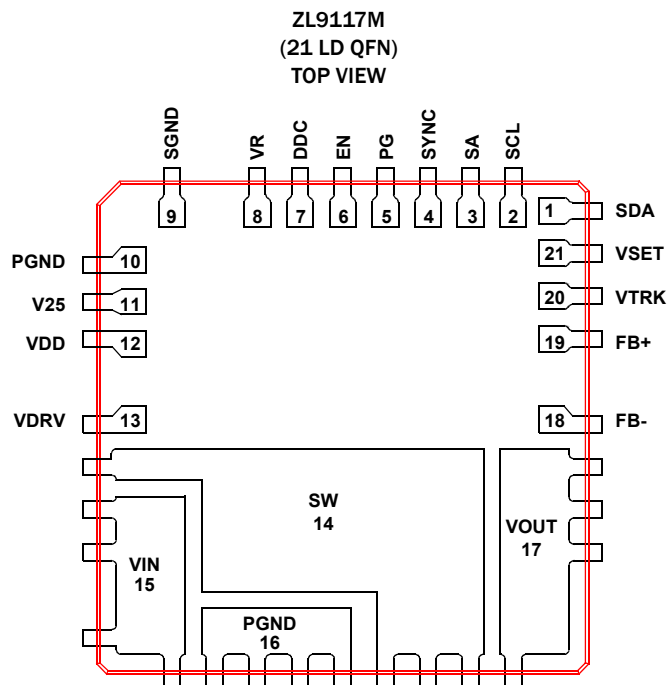

**FIGURE 1. A COMPLETE DIGITAL SWITCH MODE POWER SUPPLY, ONLY BULK INPUT AND OUTPUT CAPACITORS ARE REQUIRED TO FINISH THE DESIGN**
**Figure 1** represents a typical implementation of the ZL9117M. For PMBus operation, it is recommended to tie the Enable pin (EN) to SGND.